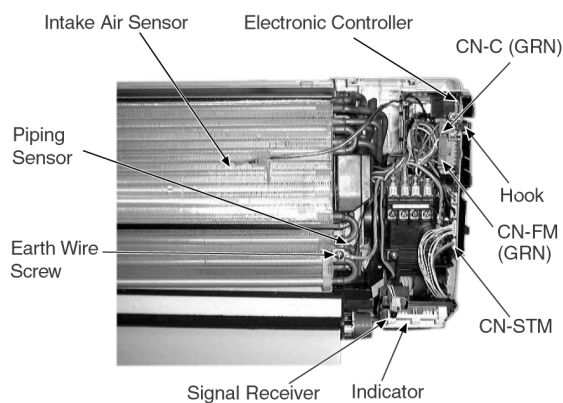

Fig. 2
1. The Electronic Controller, a signal Receiver and an Indicator (Fig. 2) can be seen by the below steps:
2. To remove the Electronic Controller, release the hook that holding the electronic controller. (Fig. 2)
- Releasing CN-C (GRN) connector. (Fig. 2)
- Releasing CN-FM (GRN) connector. (Fig. 2)
- Releasing CN-STM connector. (Fig. 2)
- Remove the earth wire screw. (Fig. 2)
- Release the intake air sensor. (Fig. 2)
- Release the piping sensor. (Fig. 2)